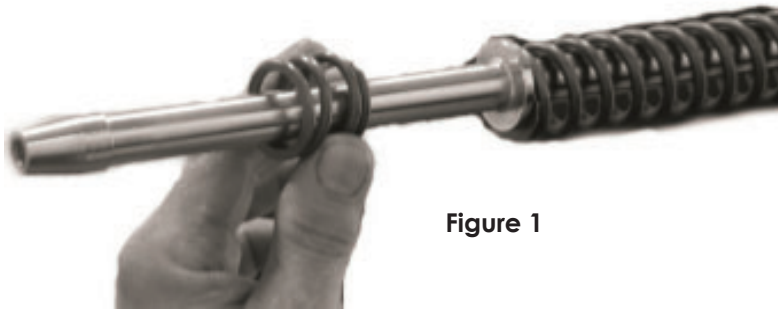
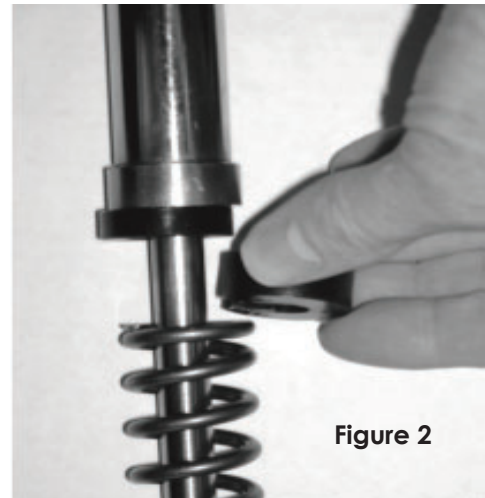
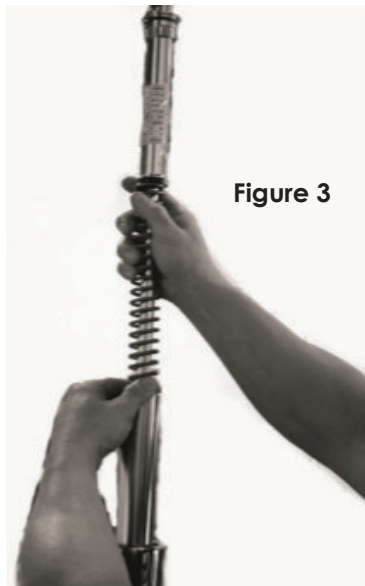

Figure 1
Figure 2
Figure 3
- Put the supplied top out spring onto the Progressive Suspension Monotube cartridge assembly as shown (see figure 1) AND two of the supplied "C" shaped preload spacers between the top of the fork spring and the upper spring seat (see figure 2). Then insert it into the fork assembly as shown (see figure 3).
- Install the supplied top-out spring as shown (see figure 1) onto the Progressive Suspension Monotube assembly AND two of the supplied "C" shaped preload spacers between the top of the fork spring and the upper spring seat (see figure 2). Then insert it into the fork assembly as shown (see figure 3). Be sure the newly installed bottoming cup receives the new cartridge assembly.